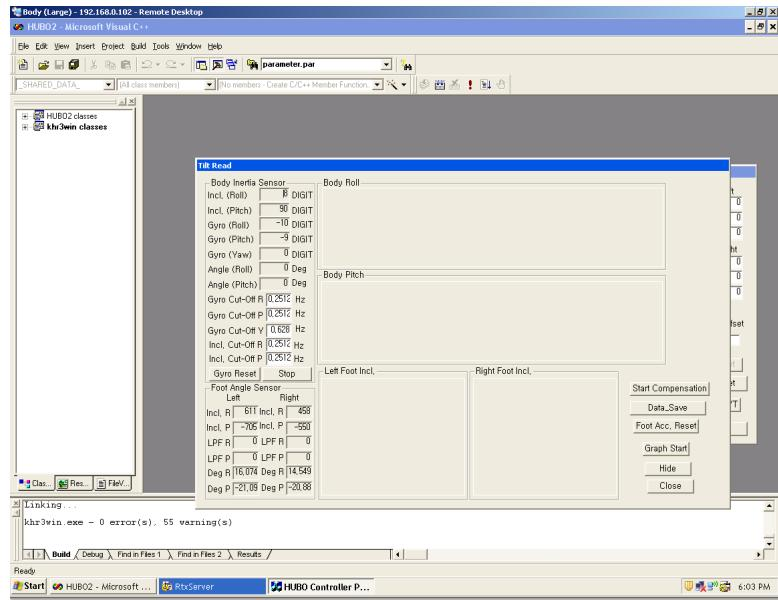

Figure 22: *Tilt Show* dialog box
After clicking *Tilt Show* the *Tilt Read* dialog box will come up, Figure 22.
5.39 Click *Start Compensation* in the *Tilt Read* dialog box, Figure 22